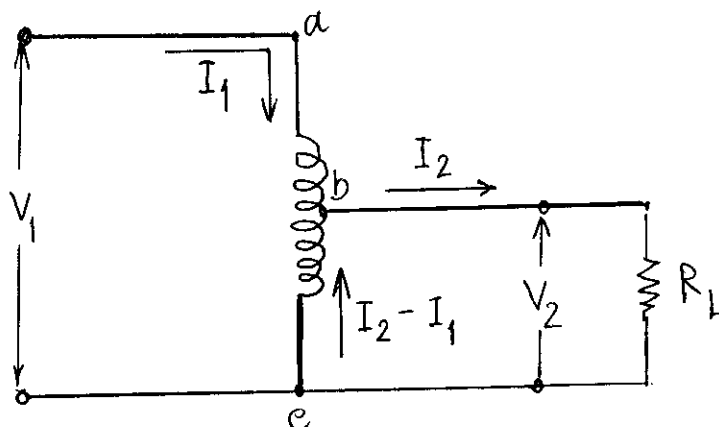

Figure 1
2. A standard 5 kVA 2300/230 V distribution transformer is connected as an autotransformer to step down the voltage from 2530 V to 2300 V. The transformer connection is as shown in figure 1; the 230 V winding is section ab, the 2300 V winding is section bc. Calculate